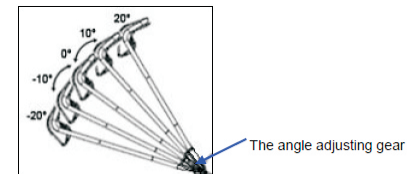

Fig. 3
2. Rotate the upper handle, centered on the angle adjusting gear. Select the angle required for the operator height. A number of selections are available between -20° to 20° as the Fig.3 shows;